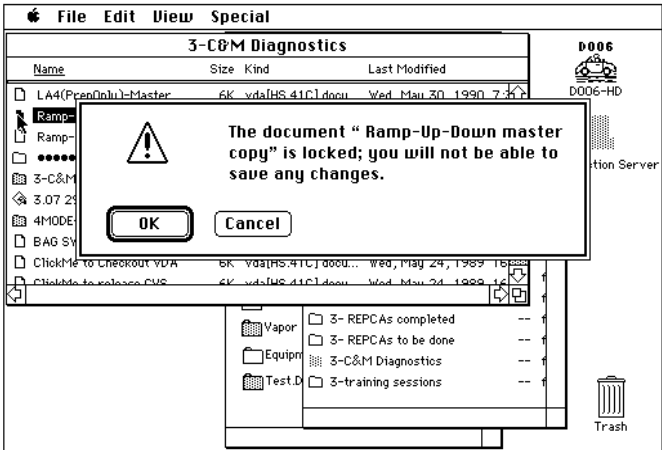

Figure 7
7.25.8 Click on the “OK” button for the dialog box that has the message, “The document “Ramp-Up-Down master copy” is locked; you will not be able to save any changes.” (see figure 7).